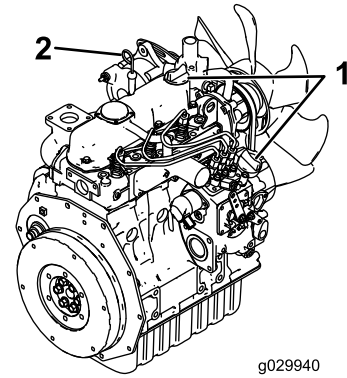

Figure 45
4. Clean the area around the oil dipstick and oil-fill cap (Figure 45).